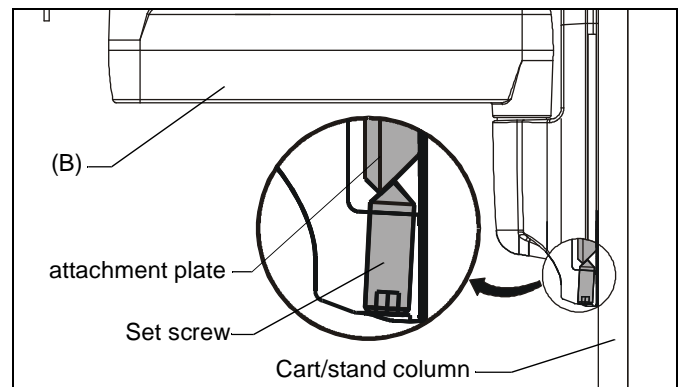

Figure 4
- Tighten set screw using 3/16" hex key (G). (See Figure 4)
**CAUTION:** IMPROPER INSTALLATION CAN LEAD TO ACCESSORY FALLING CAUSING SERIOUS PERSONAL INJURY OR DAMAGE TO EQUIPMENT! Make sure set screw engages back side of bracket on attachment plate. (See Figure 4)